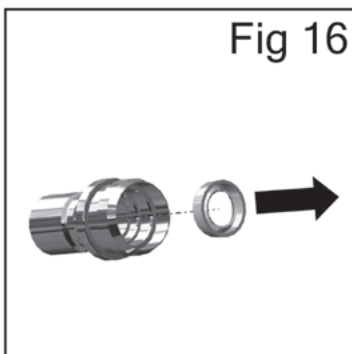

Fig 16
14. Remove rear air valve seal (22) from housing (27) with a hooked instrument.(See fig 16).